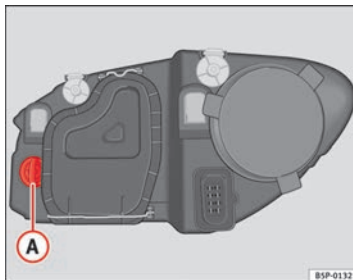

Fig. 183 Turn signal
- Rotate the bulb holder ⇒ fig. 183 **A** to the left and pull.